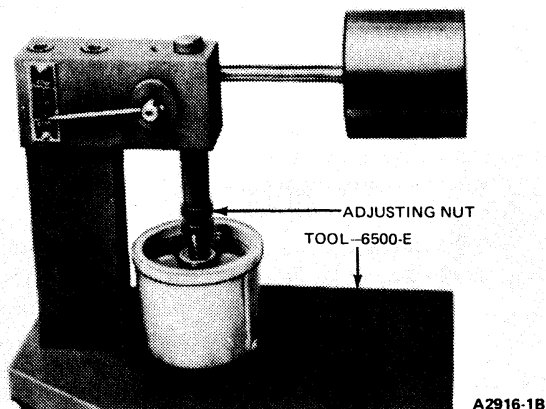

FIG. 4 Adjusting the Ram Length
4. Adjust the length of the ram (Fig. 4) so that the pointer is 1/16 inch below the starting mark when the ram contacts the tappet plunger, to facilitate timing as the pointer passes the Start Timing mark.